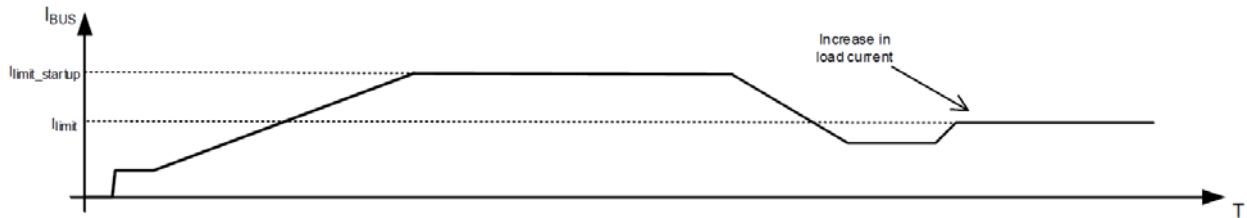

Figure 3. Ibus Profile
3. Only discrete mode for 5120/21 (connected to ground or not connected). Discrete or analog mode for 5110/30. Refer to Figures 3 and 4.